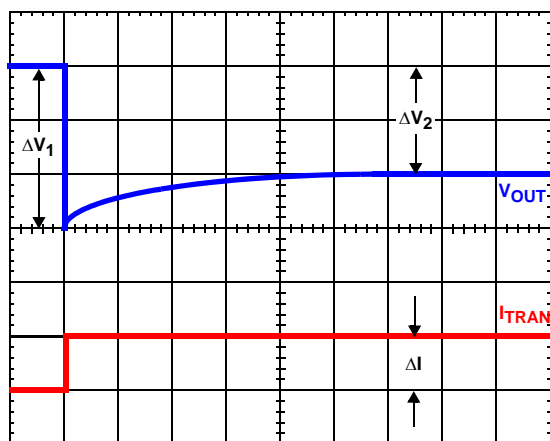

FIGURE 19. TIME CONSTANT MISMATCH BEHAVIOR
Due to errors in the inductance or DCR it may be necessary to adjust the value of  $R_1$  and  $R_2$  to match the time constants correctly. The effects of time constant mismatch can be seen in the form of droop overshoot or undershoot during the initial load transient spike, as shown in Figure 19. Follow the steps below to ensure the R-C and inductor L/DCR time constants are matched accurately.
2. Record  $\Delta V_1$  and  $\Delta V_2$  as shown in Figure 19.